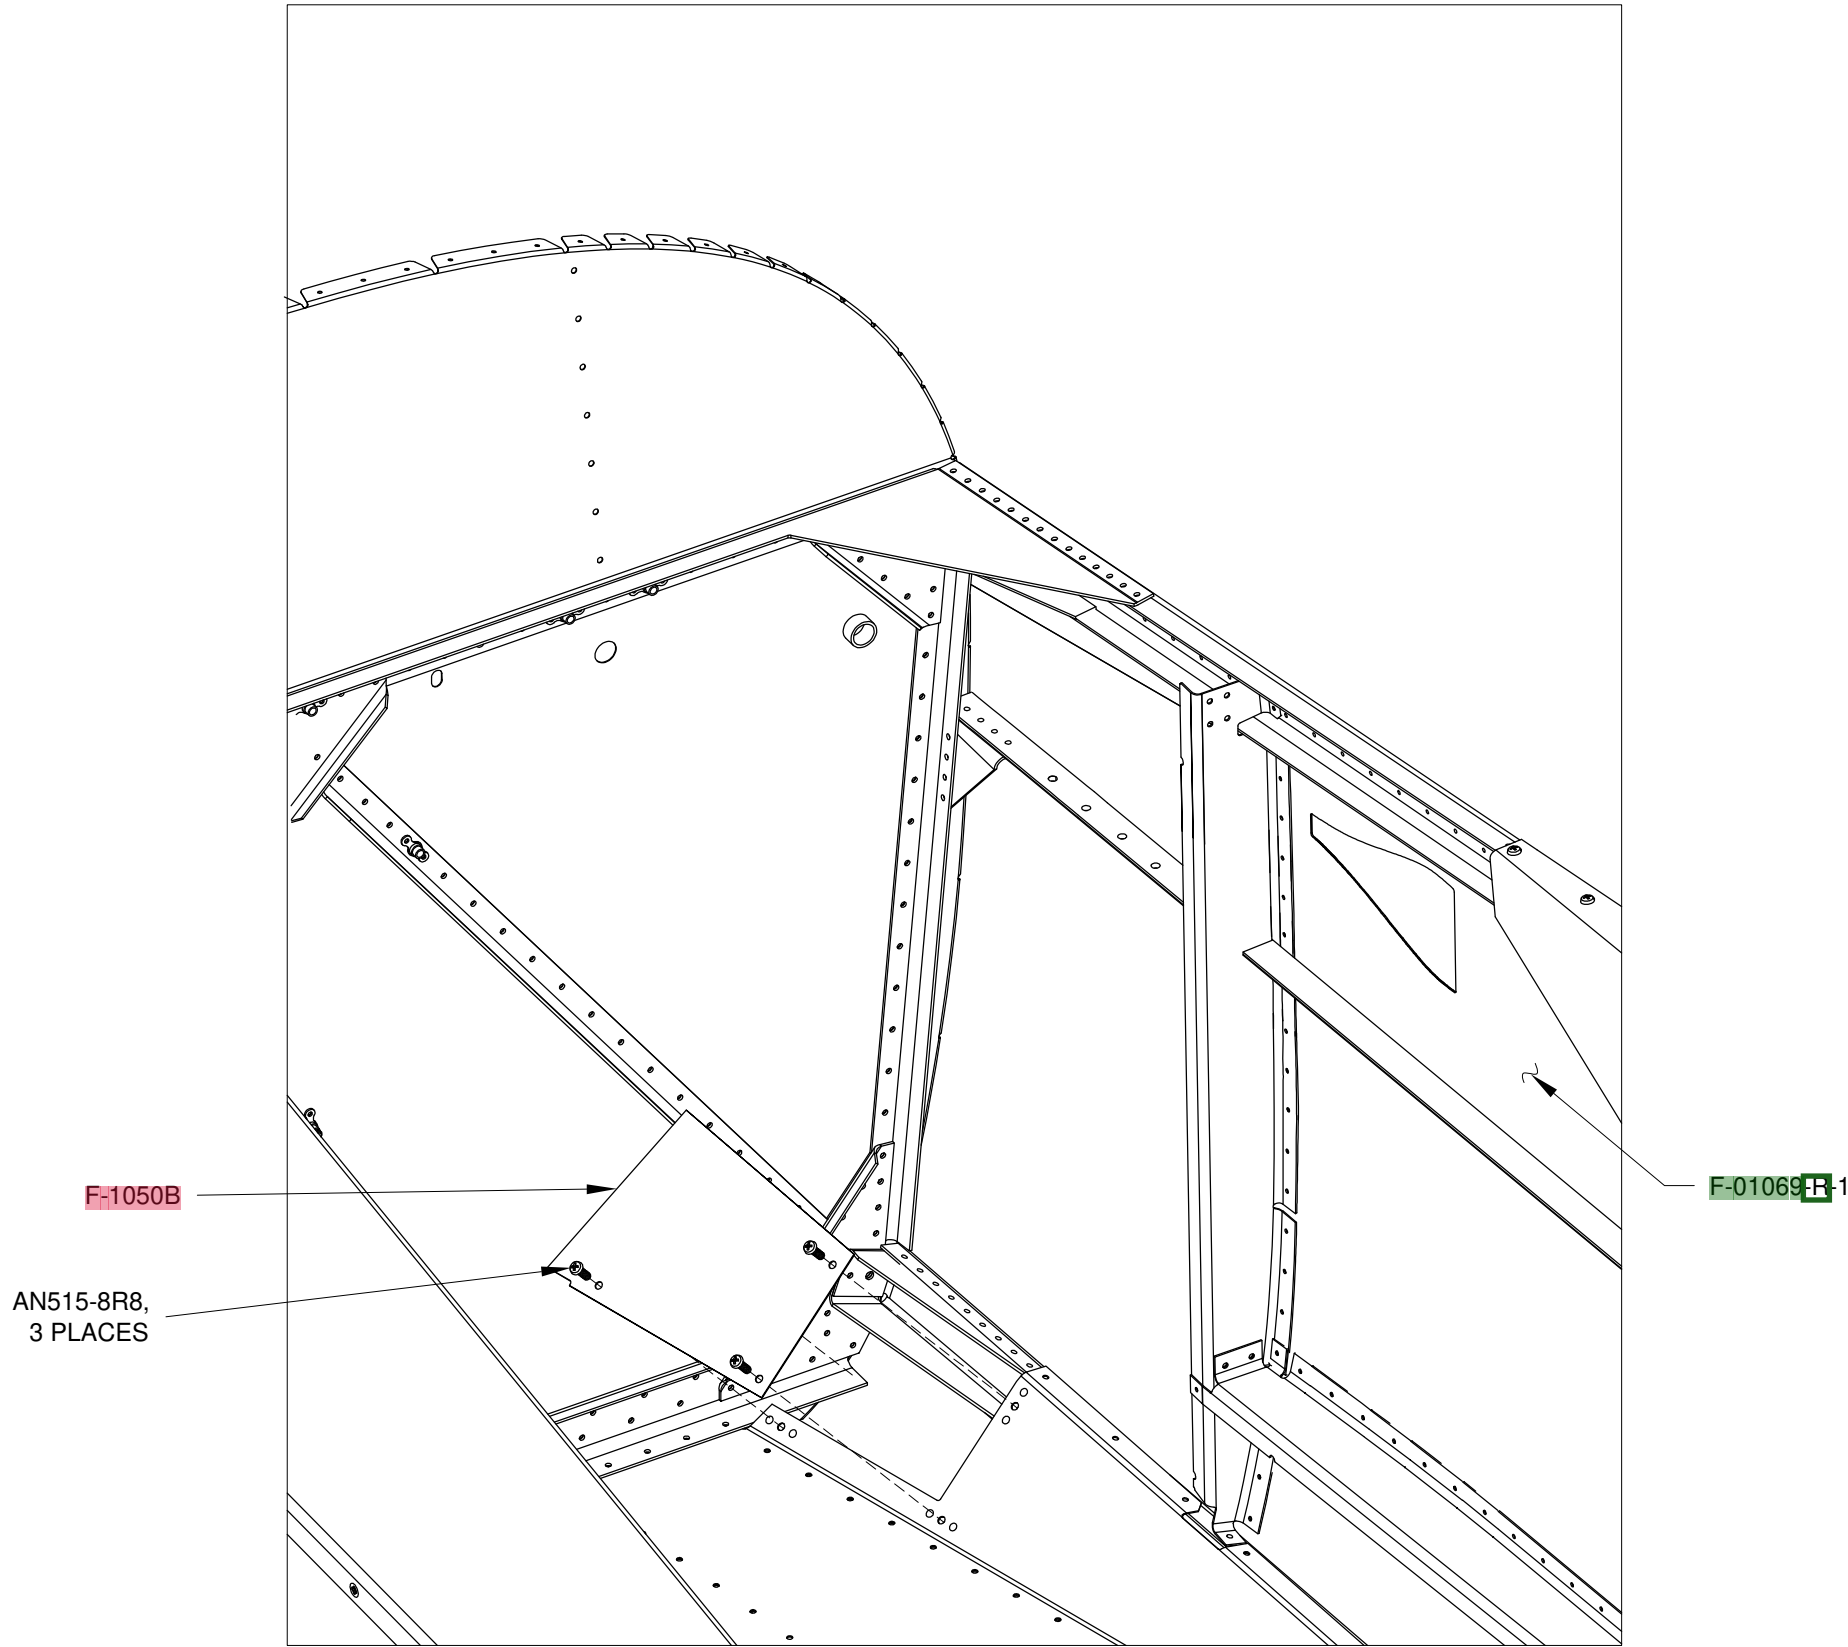

FIGURE 1: BOLT ACCESS PLATE INSTALLATION
Step 2: Deburr the edges of the F-1050B Bolt Access Plate. Prime the plate if desired. See Figure 1 for installation of the bolt access plate.